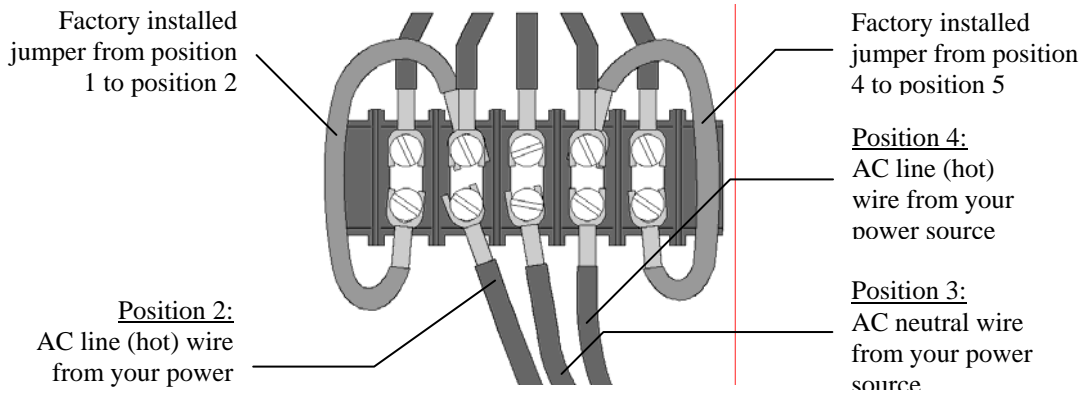

Figure 7 240 VAC Connections
4. If you are going to connect the scoreboard to a 240 VAC supply, connect one AC line wire to position 2, AC neutral wire to position 3, and the other AC line wire to position 4 of terminal strip T4 on the junction chassis according to figure 7.